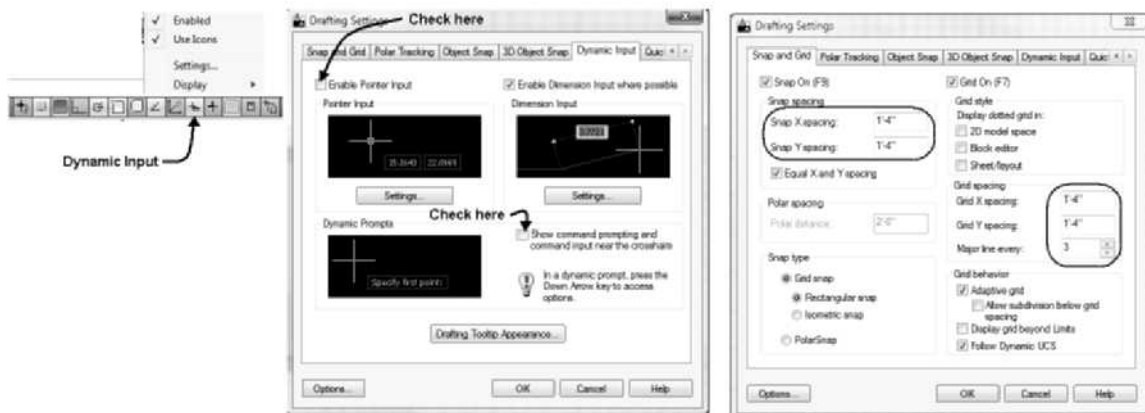

FIGURE 1.37 Dynamic Input settings
18. Toggle ON Snap Display, Grid Display, Polar Tracking, Object Snap, Object Snap Tracking, Dynamic Input, and Show/Hide Transparency toggles of the Application status bar as shown in Figure 1.37.
19. Verify that the Dynamic Input is toggled ON in the Application status bar as shown in Figure 1.37. Right-click over the Dynamic Input icon toggle and choose Settings to open the Drafting Settings dialog box. Check Enable Dimension Input where possible and Show command prompting and command input near crosshairs.
20. Choose the Snap and Grid tab as shown in Figure 1.37. In this step, you will set your cursor movement to intervals of 1'-4" [400] and major grid lines will be displayed every 4'-0" [1200]. Edit Snap x spacing = **16 [400]**, Snap Y spacing = **16 [400]**, Grid X spacing = **16 [400]**, Grid Y spacing = **16 [400]**, and Major line every = 3.